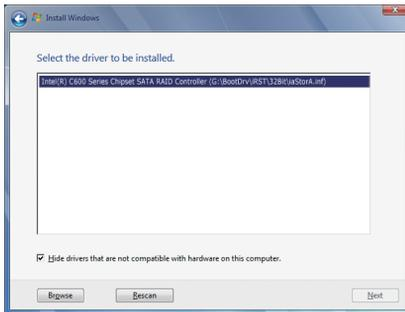
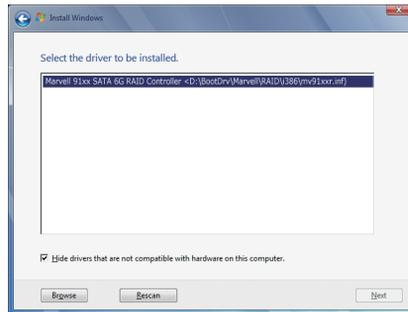

Figure 1
Figure 2
For Intel C606, select **Intel(R) C600 Series Chipset SATA RAID Controller** (Figure 1). For Marvell 88SE9172, select **Marvell 91xx SATA 6G RAID Controller** (Figure 2). Click **Next** to load the driver and continue the OS installation.